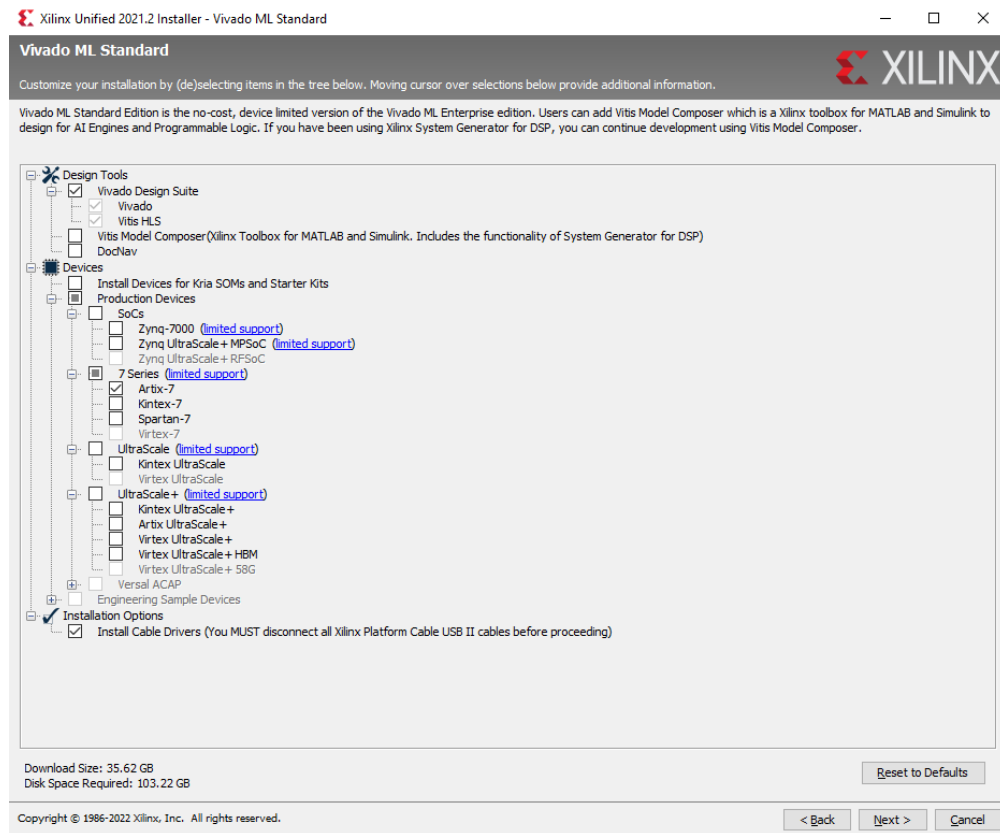

Figure 3: “Select Product to Install” window
5. In the **Vivado ML Standard** window, only select Vivado, Artix-7 and cable drivers as shown in Figure 3